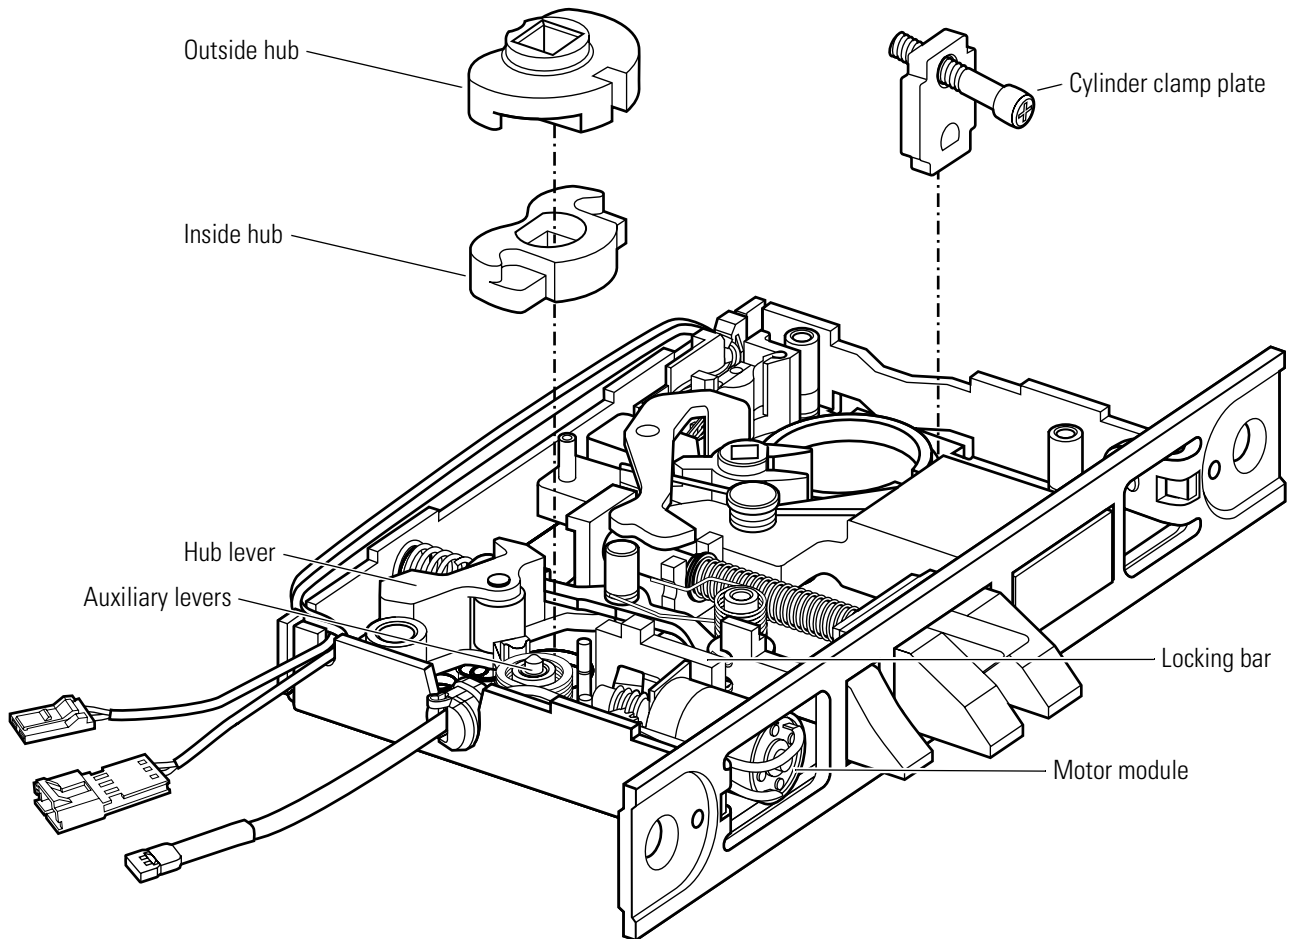
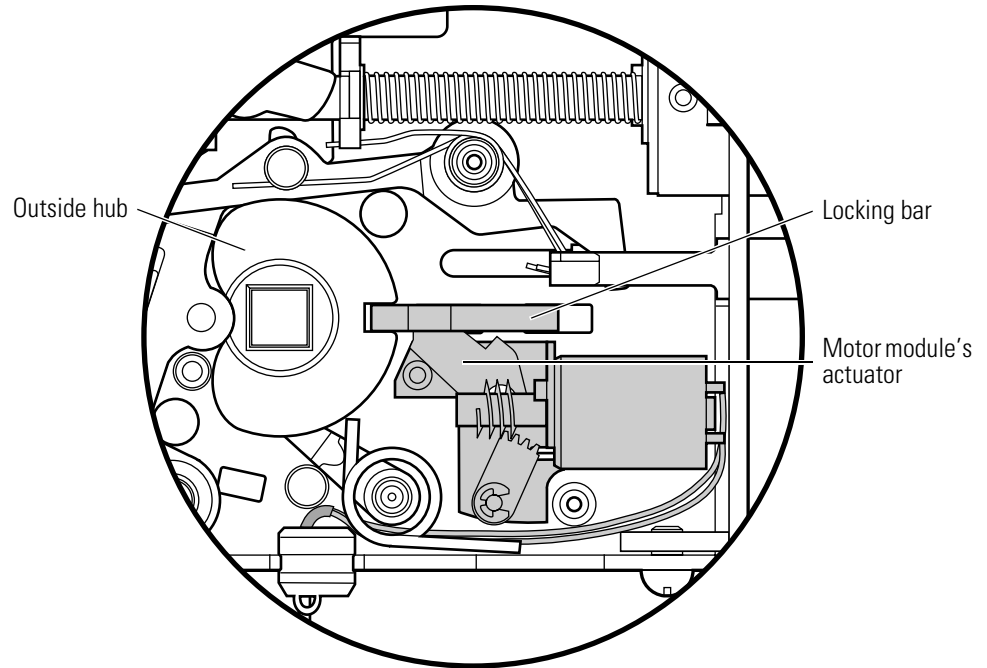

Figure 6.4 Turning over the hubs and cylinder clamp plate (FV function, LH case shown)
Figure 6.5 Motor module and locking bar in place
1. Rotate the locking bar and motor module. See Figure 6.4 and Figure 6.5. Remove the locking bar from the case.
7. Insert the motor module's actuator into the opening in the locking bar. See Figure 6.5. Rotate the components into place. The motor module locks into place in the case. The locking bar fits into the slot on the outside hub. The two feet on the bottom of the locking bar fit into the bottom of the case.
Turn over the cylinder clamp plate and insert it in the case. See Figure 6.4.